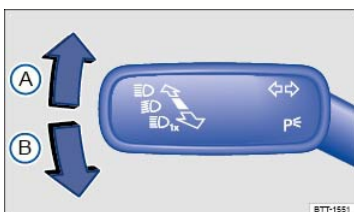

Fig. 92 To the left of the steering wheel: Turn signal and high beam lever.
- Move the turn signal and high beam lever ⇒ Fig. 92 to position:
- (A) Right turn signal ➡.
- (B) Left turn signal ⬅.